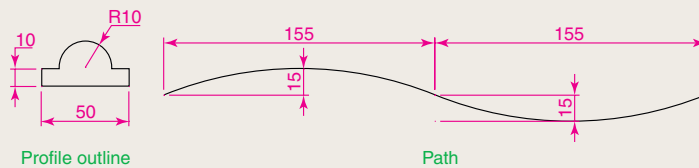
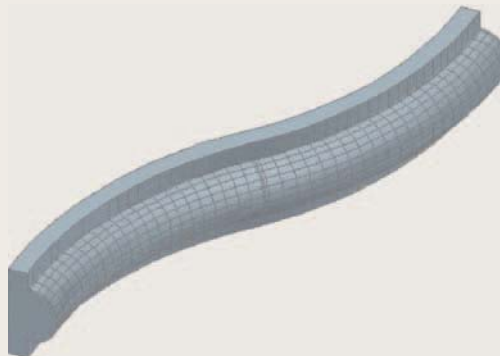

Fig. 12.55 Exercise 9 – profile and path dimensions
Fig. 12.56 Exercise 9
9. Working to the polylines shown in Fig. 12.55 construct the **Sweep** shown in Fig. 12.56.